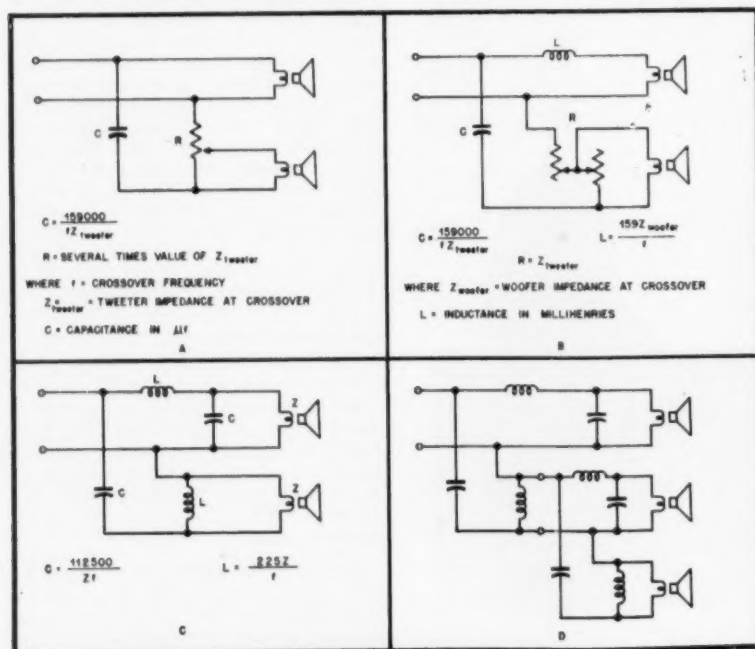

Fig. 10-14. Dividing networks for two- and three-way speaker systems.
Bass-treble combinations, poetically referred to as "woofer-tweeter" systems, require some sort of dividing network to separate the different portions of the frequency spectrum. The simplest of these networks is shown at (A) in Fig. 10-14. The tweeter is protected from damage by low-frequency signals, but treble signals are fed to both woofer and tweeter. Cone break-up and intermodulation in the woofer is thus discouraged only to the extent that part of the treble signal is by-passed through the tweeter.
The more complicated but more effective inductance-capacitance networks of (B) and (C) in Fig. 10-14 produce a much greater separation between bass and treble. Here a roll-off is introduced at the top of the woofer range and at the bottom of the tweeter range, at the rate of 6 db per octave (in terms of power) for the single capacitor-inductor network, and 12 db per octave for the double element network. The crossover frequency is that frequency at which the value of the various elements, including the speakers themselves, cause the input power to divide equally between the two speakers. Since the power to each speaker is halved at this point, the attenuation in both treble and woofer circuits is 3 db.